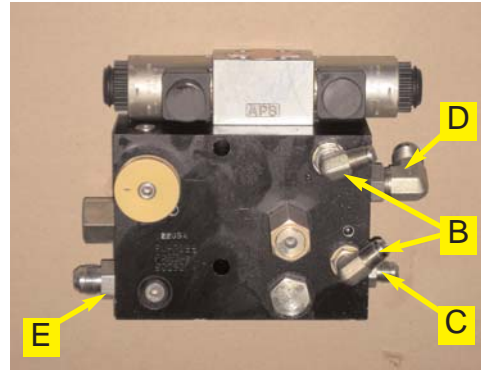

Figure 1. Prepared automated steering block.
- b. Install the small elbow adapter fitting (**B**) into the **A** and **B** ports of the automated steering block and the large elbow adapter fitting (**D**) into the **EF** port. (Figure 1.)
- c. Install the small straight adapter fitting (**C**) into the **T** port of the automated steering block and the large straight adapter fitting (**E**) into the **P** port. (Figure 1.)